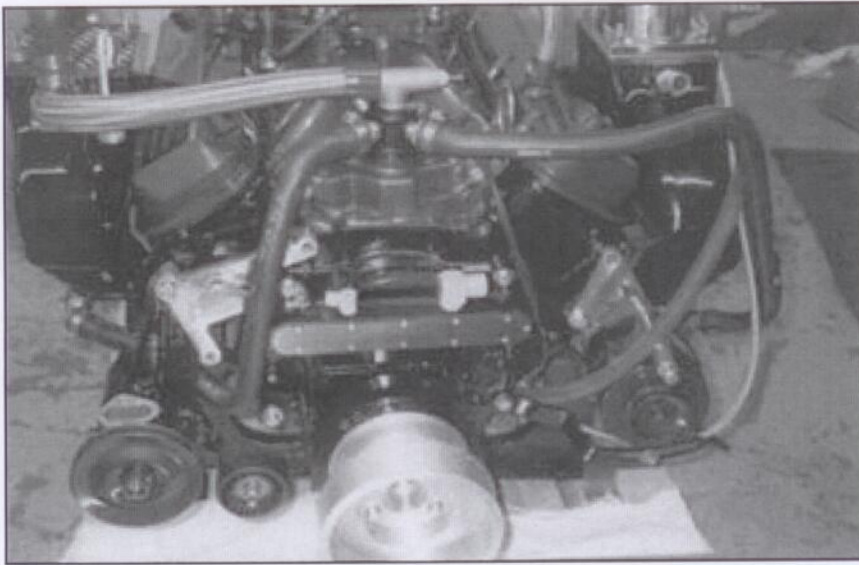
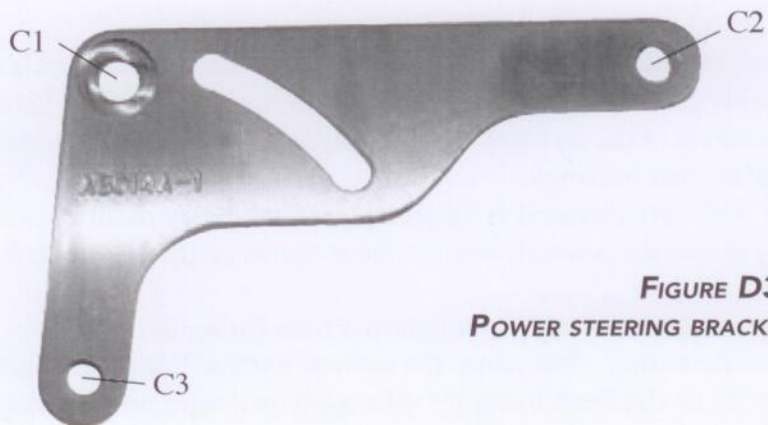
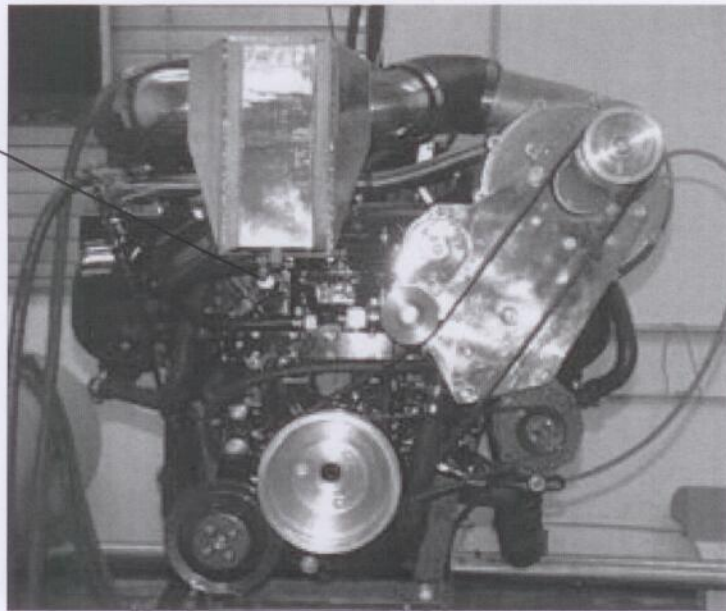

FIGURE A1
FIGURE D3
FIGURE D5
4. Install the exhaust/water tee as indicated in figure A1,
6. Install the supplied crossover tube in place of the water pump using the supplied gaskets and 3/8" x1" bolts & lockwashers. The crossover should be installed with the fittings to the top. Refer to figures A1 and A2.
1. Bolt the supplied triangular alternator bracket to the port side cylinder head aligning the lowermost hole on the head's face with hole D2 (refer to figures D1, B2) with the 7/16" x 1.5" long bolt. The bracket should be oriented in such a manner that hole D1 aligns with the upper head bolt hole and the 3/8" hole (D3) sits in the lower of the two positions (as indicated in figure D5, also refer to figure A1 for additional detail).
4. Attach the "pistol" shaped power steering bracket to the starboard side head oriented as shown in figure D3. The countersunk hole (C1) aligns with the outboard-most hole in the starboard head, with the 1.250" spacer placed between the power steering bracket and the head face. Hole C2 should line up with the inboard-most head bolt hole. (refer to Figure A1 for add'l detail)
5. If you will be mounting your intercooler remotely, follow 5R, otherwise proceed. The lower intercooler bracket should be installed with the mounting eye to the left of center, as shown in figure D5 with the 0.300" spacer placed nearest the head, then the I/C bracket, with the 0.550" spacer to the rear face of the power steering bracket. Secure the bracket/spacer assembly to the head using the supplied 7/16" x 2-1/2" bolt. With the I/C (intercooler) mounting bosses facing the front of the engine, attach the I/C to the lower bracket using the provided 3/8-16 x 3/4" bolts & lockwashers.
1. Trim the supplied 4" x 90° elbow to fit from the outlet of the ProCharger (refer to figure D5)